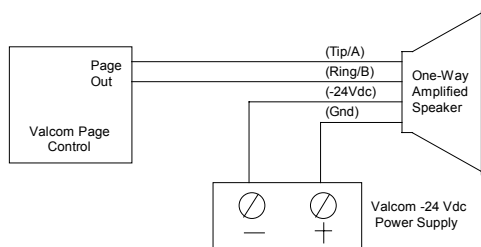

Figure 2. Typical Connections
3. Make connections to amplifier (see Figure 2).